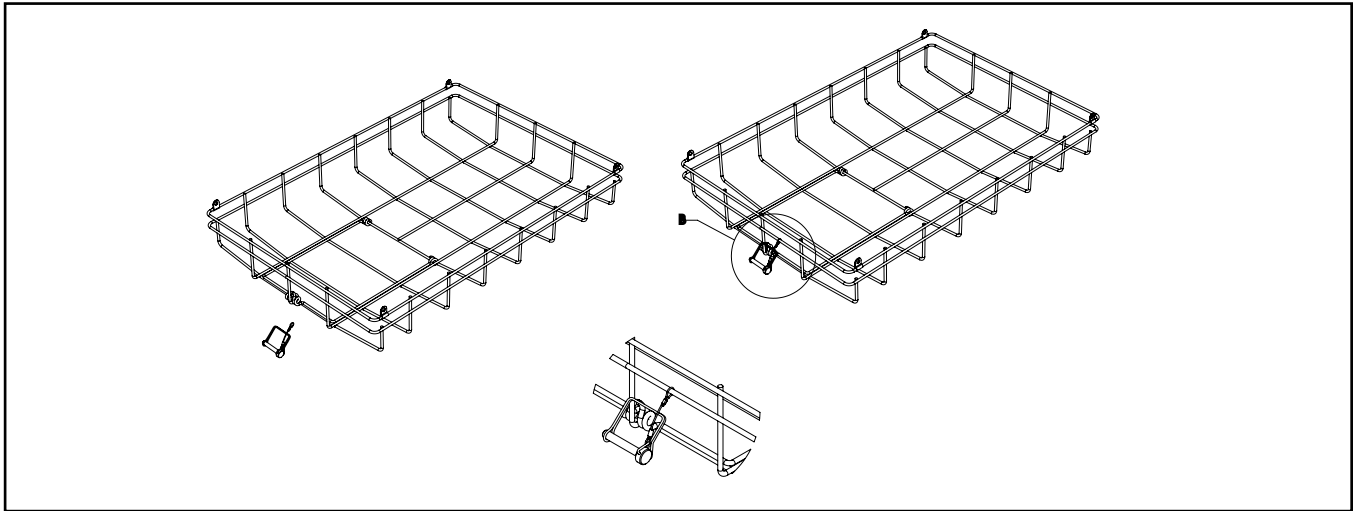

Figure 1.
1. Remove the included clevis pin from the parts bag and attach the snap hook on the free end of its integrated tether to the wire guard as shown below. (Figure 1)